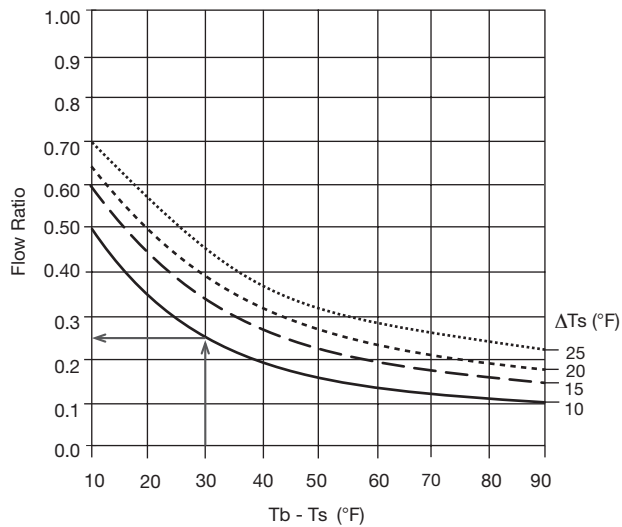

Figure 2
3. Compute $T_b - T_s$. Look up the flow ratios in Figure 2.